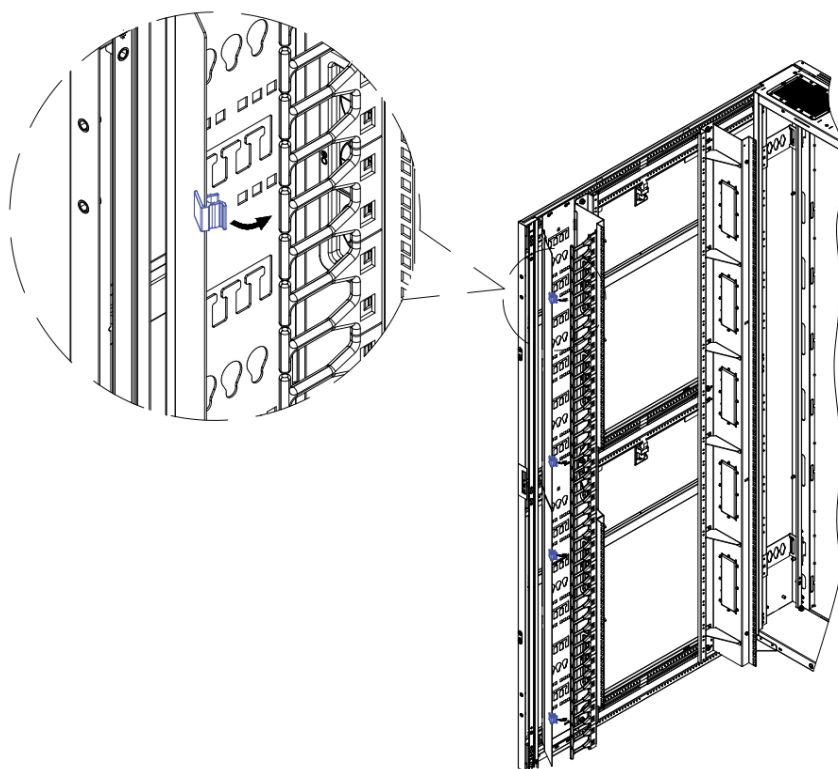

Figure 6.5.9
- (Only for the Pro Version) Close covers (⑥) to complete the installation of the pro vertical cable manager. (Figure 6.5.9)